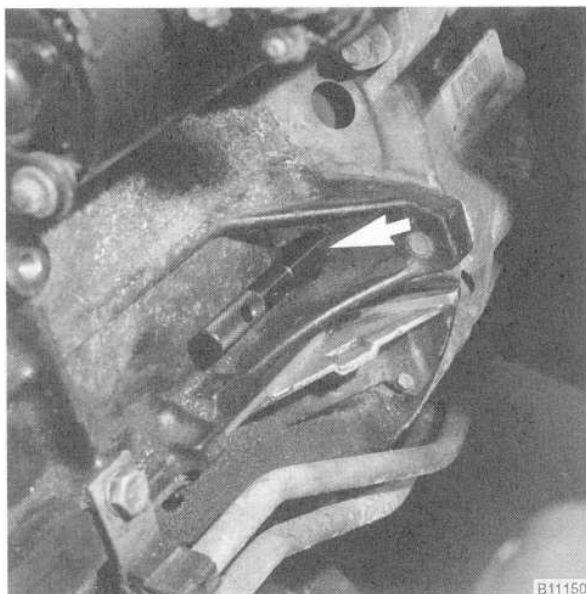

Fig. 36. BMW special tool no. 11 2 300 installed through bellhousing and into flywheel.
7. Lock the crankshaft in position by inserting BMW special tool no. 11 2 300 through the transmission bellhousing and into the hole in the flywheel or drive plate. See Fig. 36.
6. Lock the crankshaft at TDC by inserting BMW special tool no. 11 2 300 through the transmission bellhousing and into the flywheel or drive plate. See Fig. 36 above.